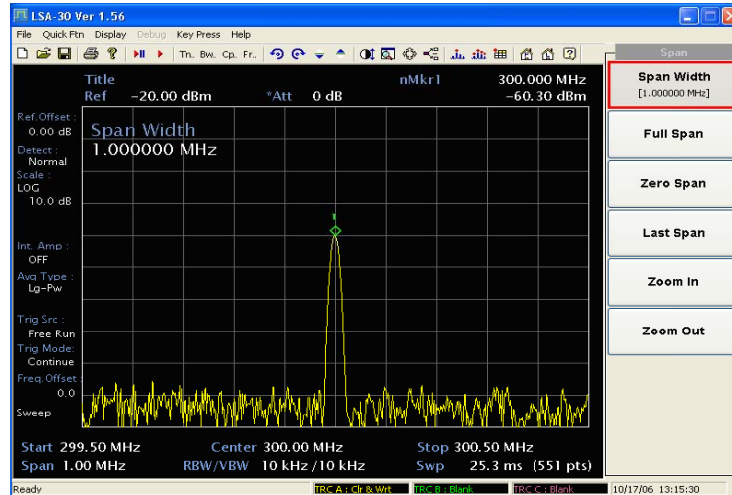

Fig. B-12 Using 0 dB attenuation
- 8 Reduce the span to 1 MHz. Press [SPAN], and then use the step-down key (▼). See Fig. B-12.